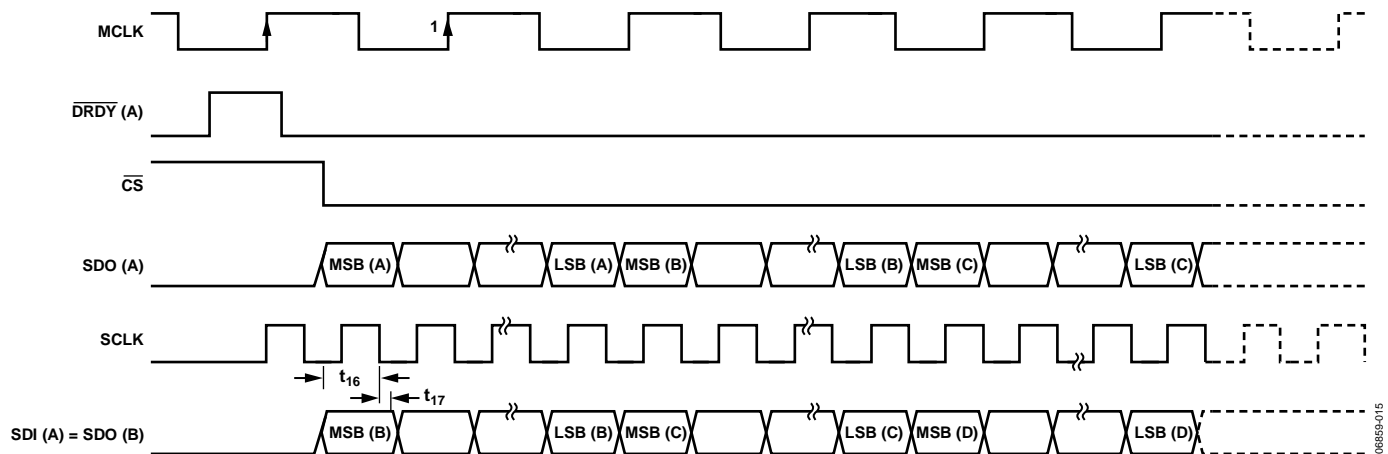

Figure 38. Daisy-Chain SDI Setup and Hold Timing
This is illustrated in the examples shown (Figure 37 and Figure 38), where the conversion results from the devices labeled A, B, C, and D are clocked onto SDO (A) during the time between the falling edge of  $\overline{\text{DRDY}}$  (A) and the rising edge of  $\overline{\text{DRDY}}$  (A).